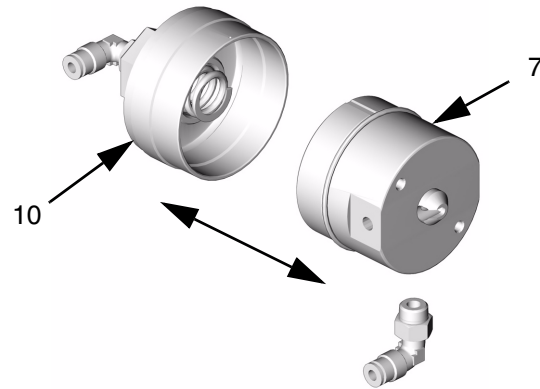
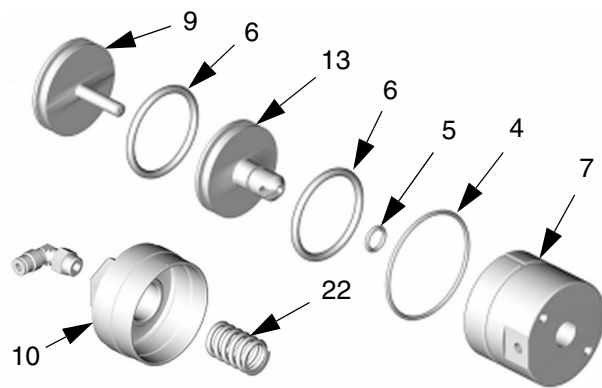

FIG. 5
FIG. 6
1. Unscrew the valve cap (10) from the housing (7) and separate. Inspect o-ring (4). See FIG. 5.
2. Push the pistons (9,13) up from the bottom of the housing (7) to inspect o-rings (5, 6). See FIG. 6.
3. Remove spring (22) from valve cap (10).
1. Insert spring (22) into valve cap (10). See FIG. 6.
2. Push the pistons (9,13) into the bottom of the housing (7).
3. Screw the valve cap (10) onto the housing (7) only until slight resistance is felt as the cap (10) contacts the o-ring (4) on the housing (7). **Do not tighten the valve cap (10) at this time.** See FIG. 5.